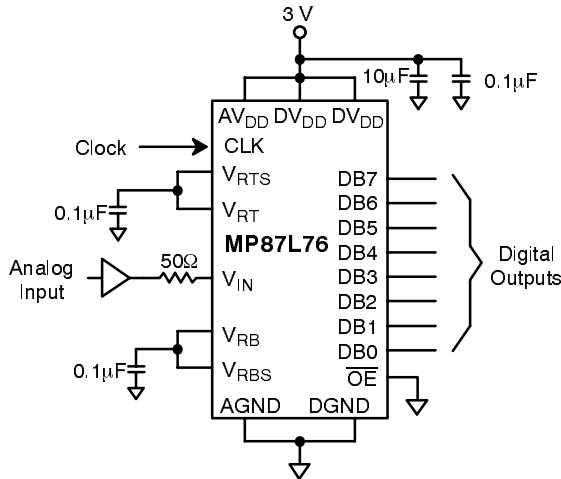

Figure 5. Typical Circuit Connections
AV_{DD} and DV_{DD} should be connected to the sample power supply source (Figure 5.). The power supply (AV_{DD} and DV_{DD}) and reference voltage (V_{RT} & V_{RB}) pins should be decoupled with 0.1 μ F and 10 μ F capacitors to GND, placed as close to the chip as possible.
2. It is important to note that op amps have inductive output impedances at high frequencies which is a consequence of the emitter impedance of the typical push-pull output stage. The resulting transient ringing should be damped by inserting a resistor in series with the ADC input - typically about 50 Ω . See Figure 5. The exact value may be obtained from the op amp manufacturer's data sheet.